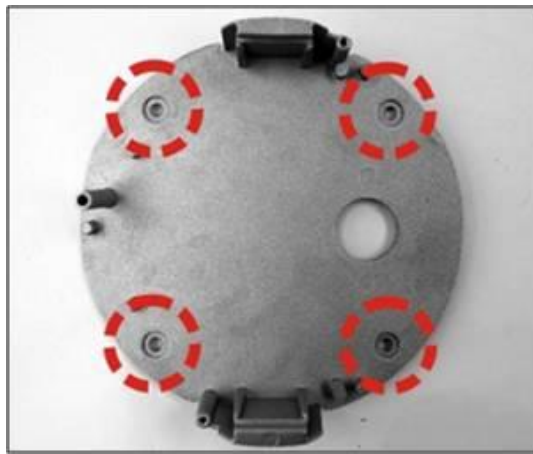

Figure 10: Base Plate Used as a Template to Mark Drilling Locations
- a) Use the base plate as a template, mark with a pointed pencil, the mounting surface through the plate holes where the four screw holes will need to be drilled (see Figure 10).